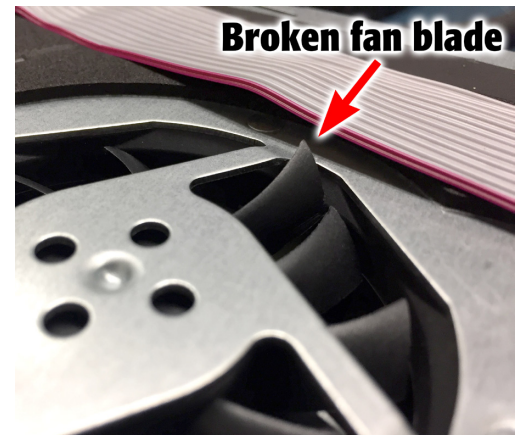

Figure 8.11.1 - Check for broken fan blades if there is an over temperature condition.
- Check for broken or stuck fan blades as in Figure 8.11.1. Try to spin the fan with your fingers. It should freely move.